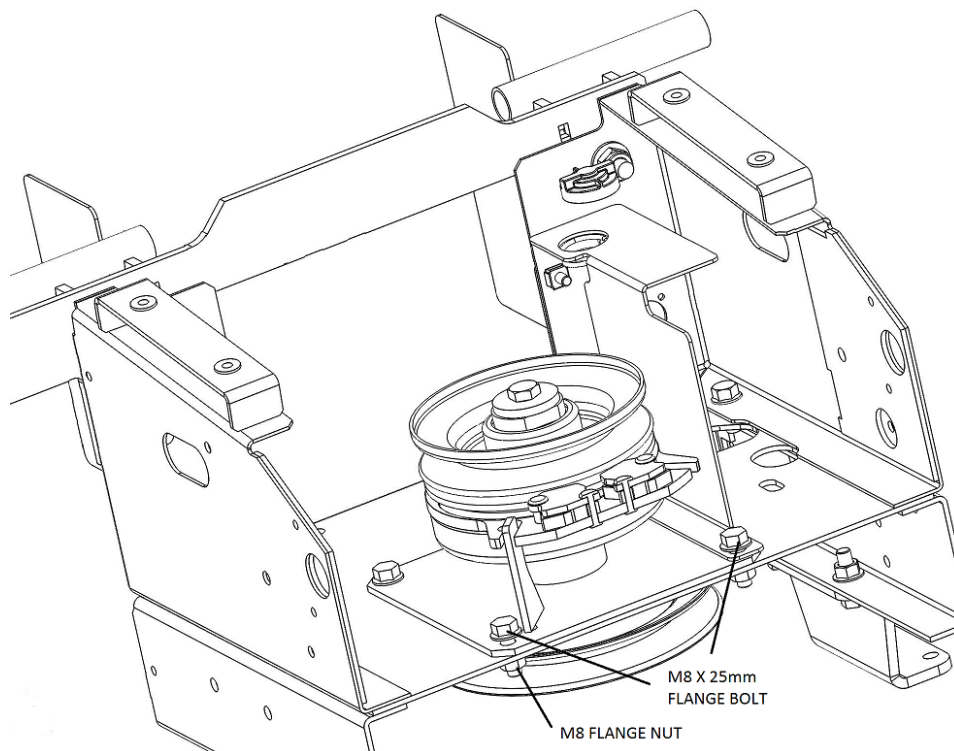

Fig. 1 Remove M8 Flange bolts and nuts.
- Remove two M8 x 25mm bolts and M8 flange nuts in PTO clutch assembly as shown in Figure 1.